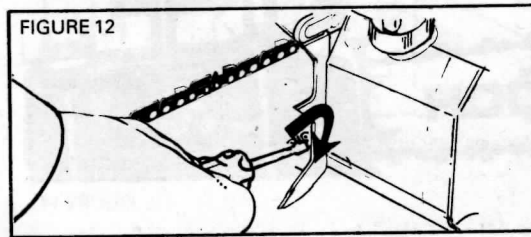

FIGURE 12
12. Hold the nose of the bar up and turn the adjustment screw clockwise to increase the chain tension. Always maintain a snug fit all the way around the bar. (Figure 12).